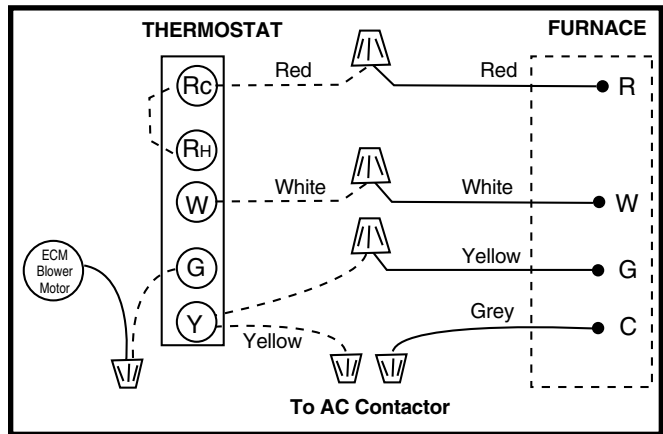

Figure 25. Thermostat Wiring
Proper line voltage polarity must be maintained in order for the control system to operate correctly. Verify the incoming neutral line is connected to the white wire and the incoming “hot” line is connected to the black wire. The furnace will not operate unless the polarity and ground are properly connected as shown in Figure 25 \(page 13\).
2. Connect the thermostat wires to the furnace low voltage pigtails (dependent on the installation application). See Figure 25 \(page 13\). **NOTE:** If AC is installed with the furnace, a Y connection is required to be made at the furnace. See Figure 31 \(page 25\).